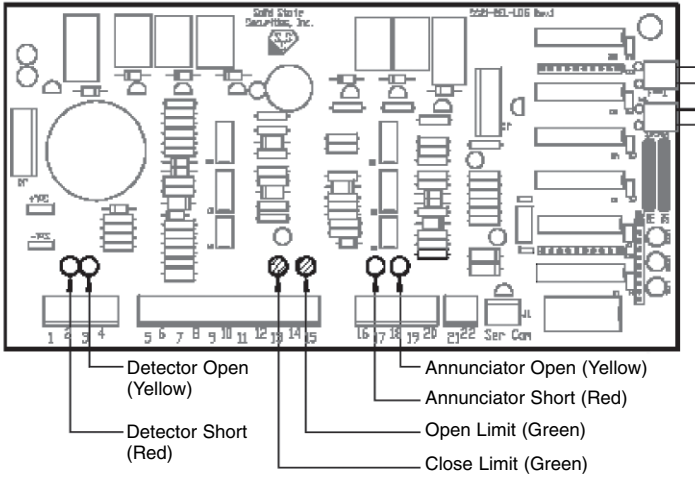

Figure 11 - Logic Board LED Descriptions
3. Green Close Limit LED will be lit on Logic Board (Figure 11).
5. Green Open Limit LED will be lit on Logic Board (Figure 11).